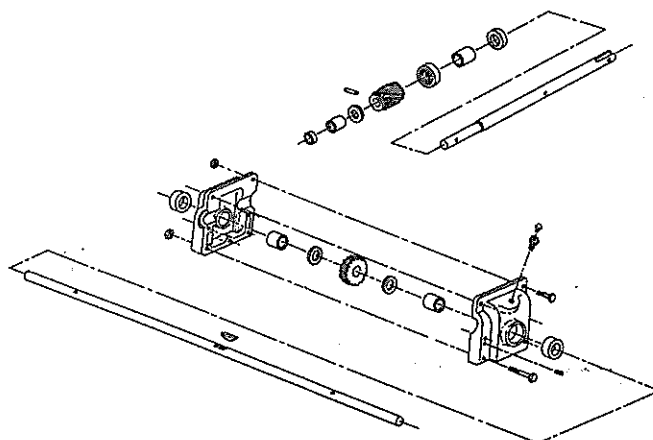

Figure 6-17
1. Remove four (4) bolts securing gear case halves together. Allow oil to drain and slide the gear case halves off the shaft.
2. Remove bushings (G, Figure 6-17) and thrust washer (H).